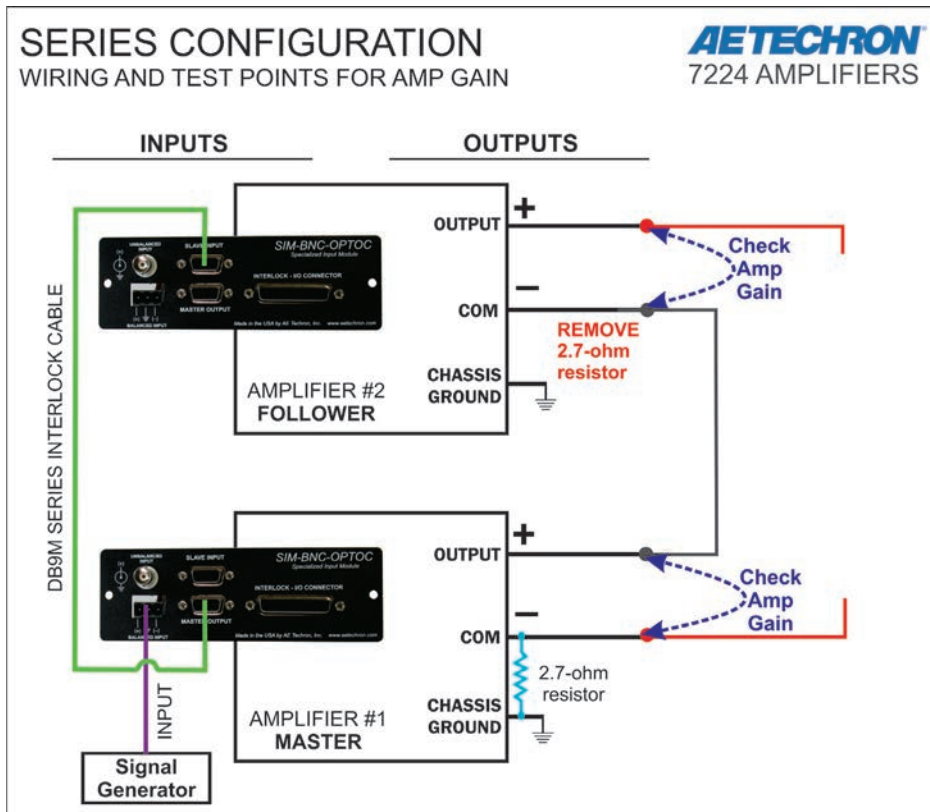

Figure B.2.41 – Wiring and Test Points for Amp Gain
- B. Apply a sine wave of 5Vrms at 100 Hz at the Master amplifier input. Using a voltmeter measure across each amplifier’s back-panel output connector terminals (OUTPUT to COM) to verify an output from each amplifier of approximately 100Vrms (gain of 20). See **Figure B.2.41**. NOTE: If any amplifier’s gain varies significantly from the set gain of 20, the amplifier may require servicing. Contact AE Techron Technical Support.